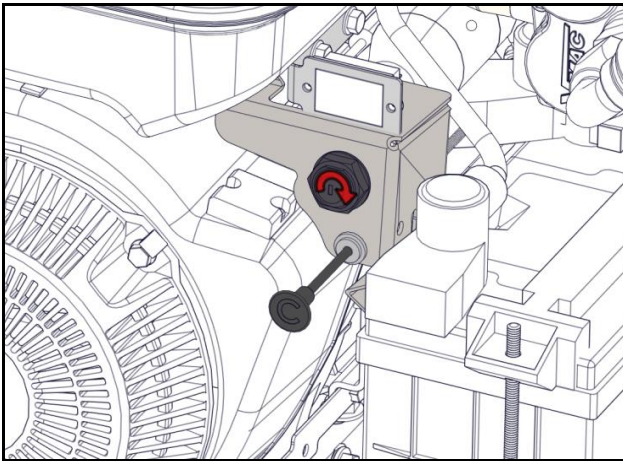

Figure 21 – Key switch
- 2) Turn the key switch to the “START” position (Figure 21).